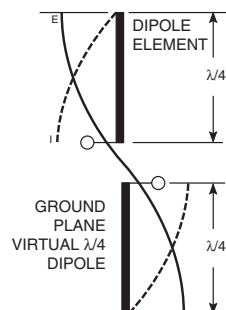

Figure 59: Dipole Antenna
4. In many antenna designs, particularly  $\frac{1}{4}$ -wave whips, the ground plane acts as a counterpoise, forming, in essence, a  $\frac{1}{2}$ -wave dipole (Figure 59). For this reason, adequate ground plane area is essential. The ground plane can be a metal case or ground-fill areas on a circuit board. Ideally, it should have a surface area less than or equal to the overall length of the  $\frac{1}{4}$ -wave radiating element. This is often not practical due to size and configuration constraints. In these instances, a designer must make the best use of the area available to create as much ground